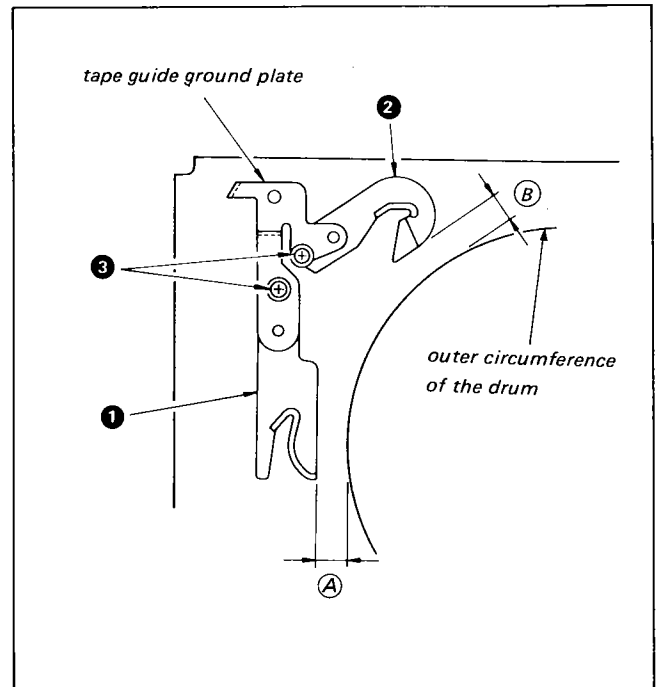

Fig. 3-5. Measurement of the position of adjusting plates 1 and 2
- 3 Remove the screws shown in Fig. 3-5, then remove the tape guide ground plate and adjusting plates 1 and 2.